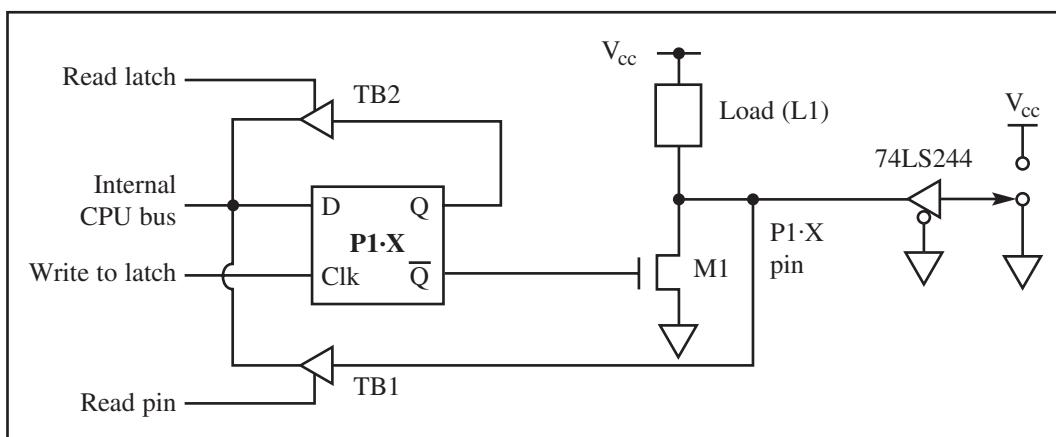

Figure 16. Buffering Input Switch with Direct V_{cc}
3. Another way is to connect any input switch to a 74LS244 tri-state buffer before it is fed to the 8051 pin. This is shown in Figure 16.